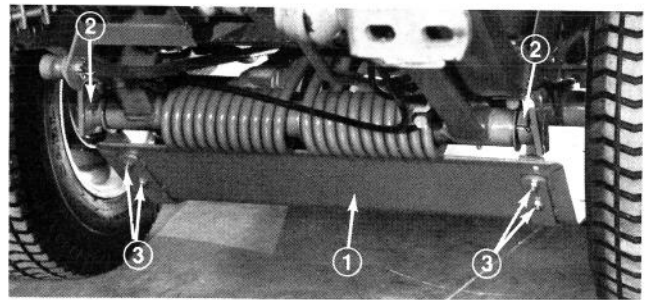

Figure 6
6. Secure Belly Shield to Belly Shield hooks with two 5/16 in. locknuts on each side (Fig. 6).